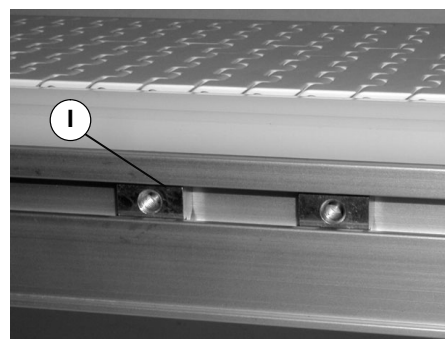

Figure 5
3. Insert T-bars (I of Figure 5) in side of conveyor.